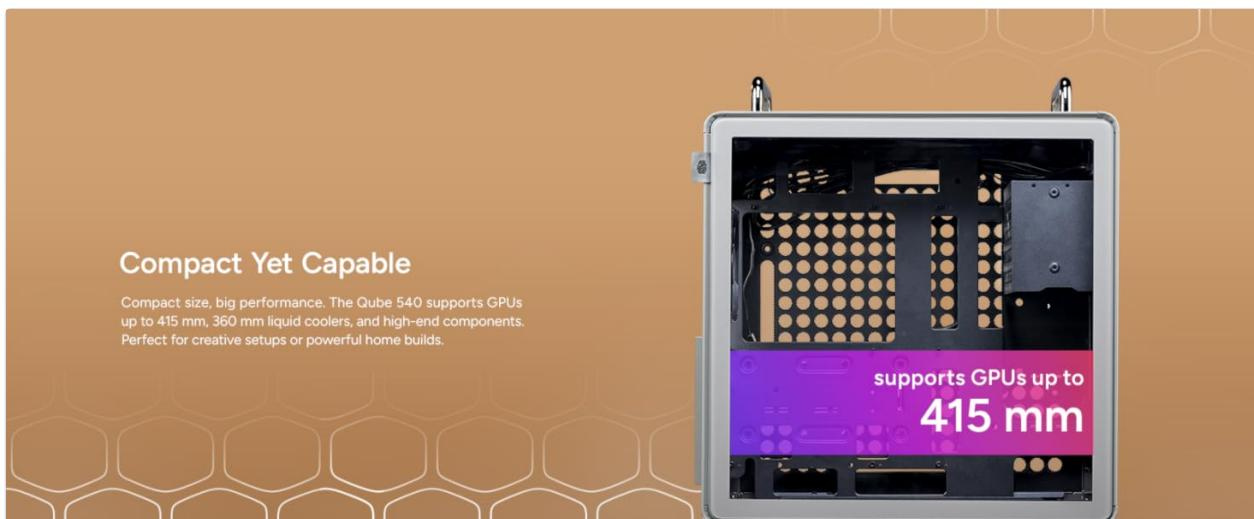

Figure 3: Diagrams showcasing the modular interior design, allowing for diverse liquid-cooling setups or compact workstations.
- **Component Fit Issues:** The QUBE 540 is highly modular. If a component doesn't fit, consult the manual's configuration diagrams (Figure 3) to adjust internal brackets or reorient the case.